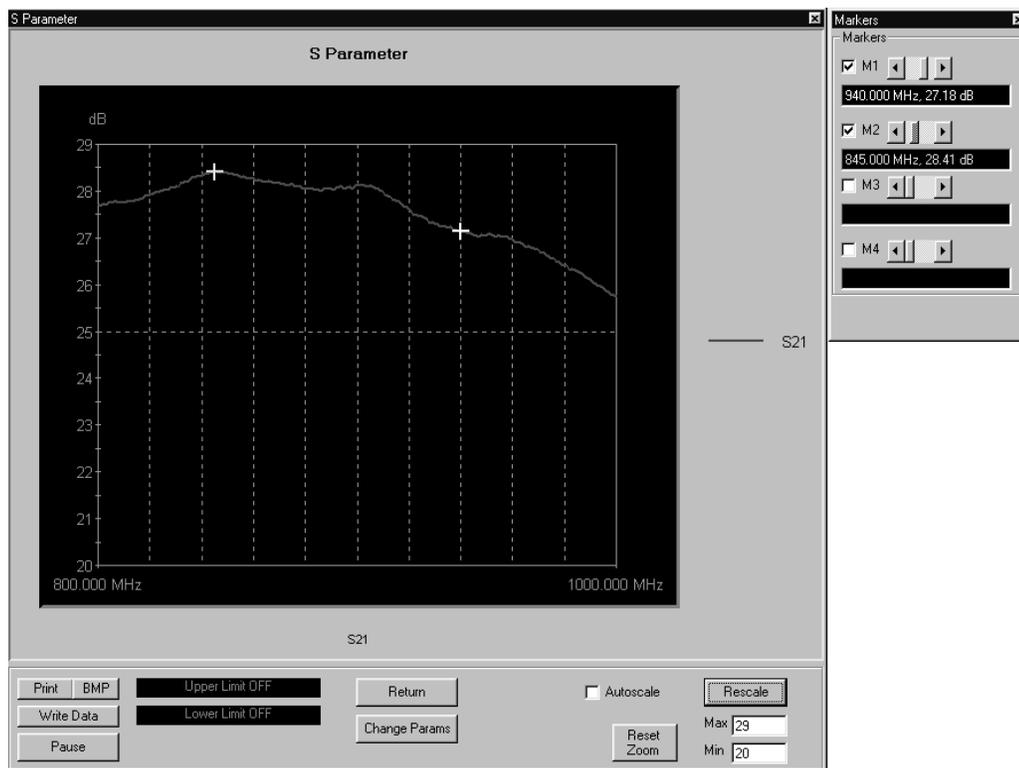

Figure 5-1. S-Parameters Test Screen for S_{21}
Observe that the test screen (Figure 5-1) appears.
- **Select Start Test:** Observe that the test screen (Figure 5-1) appears.